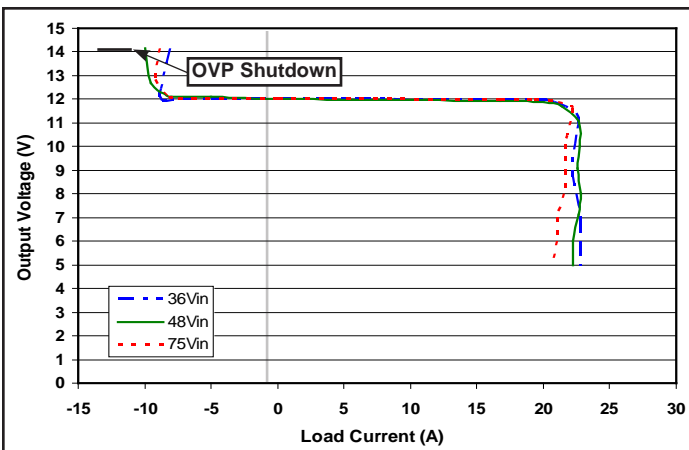

Figure 17: Output voltage vs. load current showing typical current limit curves and OVP shutdown point.
**Back-Drive Current Limit:** If there is negative output current of a magnitude larger than the "Back-Drive Current Limit while Enabled" specification\*, then a fast back-drive limit controller will increase the output voltage to maintain a constant output current. If this results in the output voltage exceeding the "Output Over-Voltage Protection" threshold\*, then the unit will shut down. The full I-V output characteristics can be seen in Figure 17.